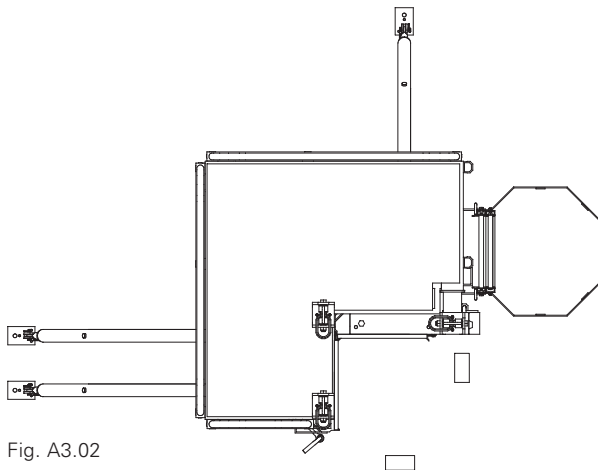

Fig. A3.02
2. Position formwork halves against locating boards. (Fig. A3.02)